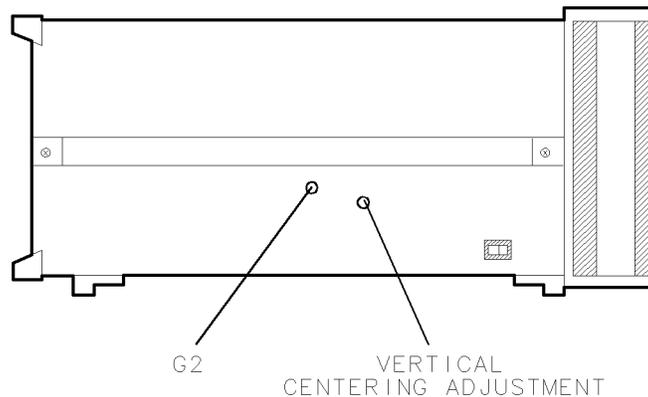

Figure 6-5. Monitor Adjustments
3. Adjust the Vertical Centering Adjustment on the monitor until the displayed softkey menus are properly aligned with their corresponding keys. Refer to Figure 6-5 for the location of the Vertical Centering Adjustment.
2. Adjust G2 on the monitor so that the left-most vertical bar is not distinguishable from the non-display border. The rightmost three bars should be visible. Refer to Figure 6-5 for the location of adjustment G2.